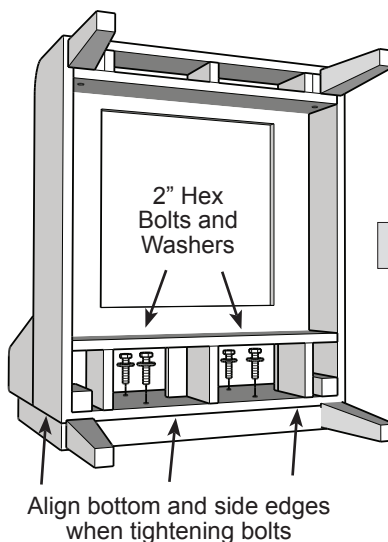

Figure 3
5. Attach seat to back assembly using 2" bolts and washers into threaded inserts, as shown in figure 3. Align edges carefully and tighten bolts securely.